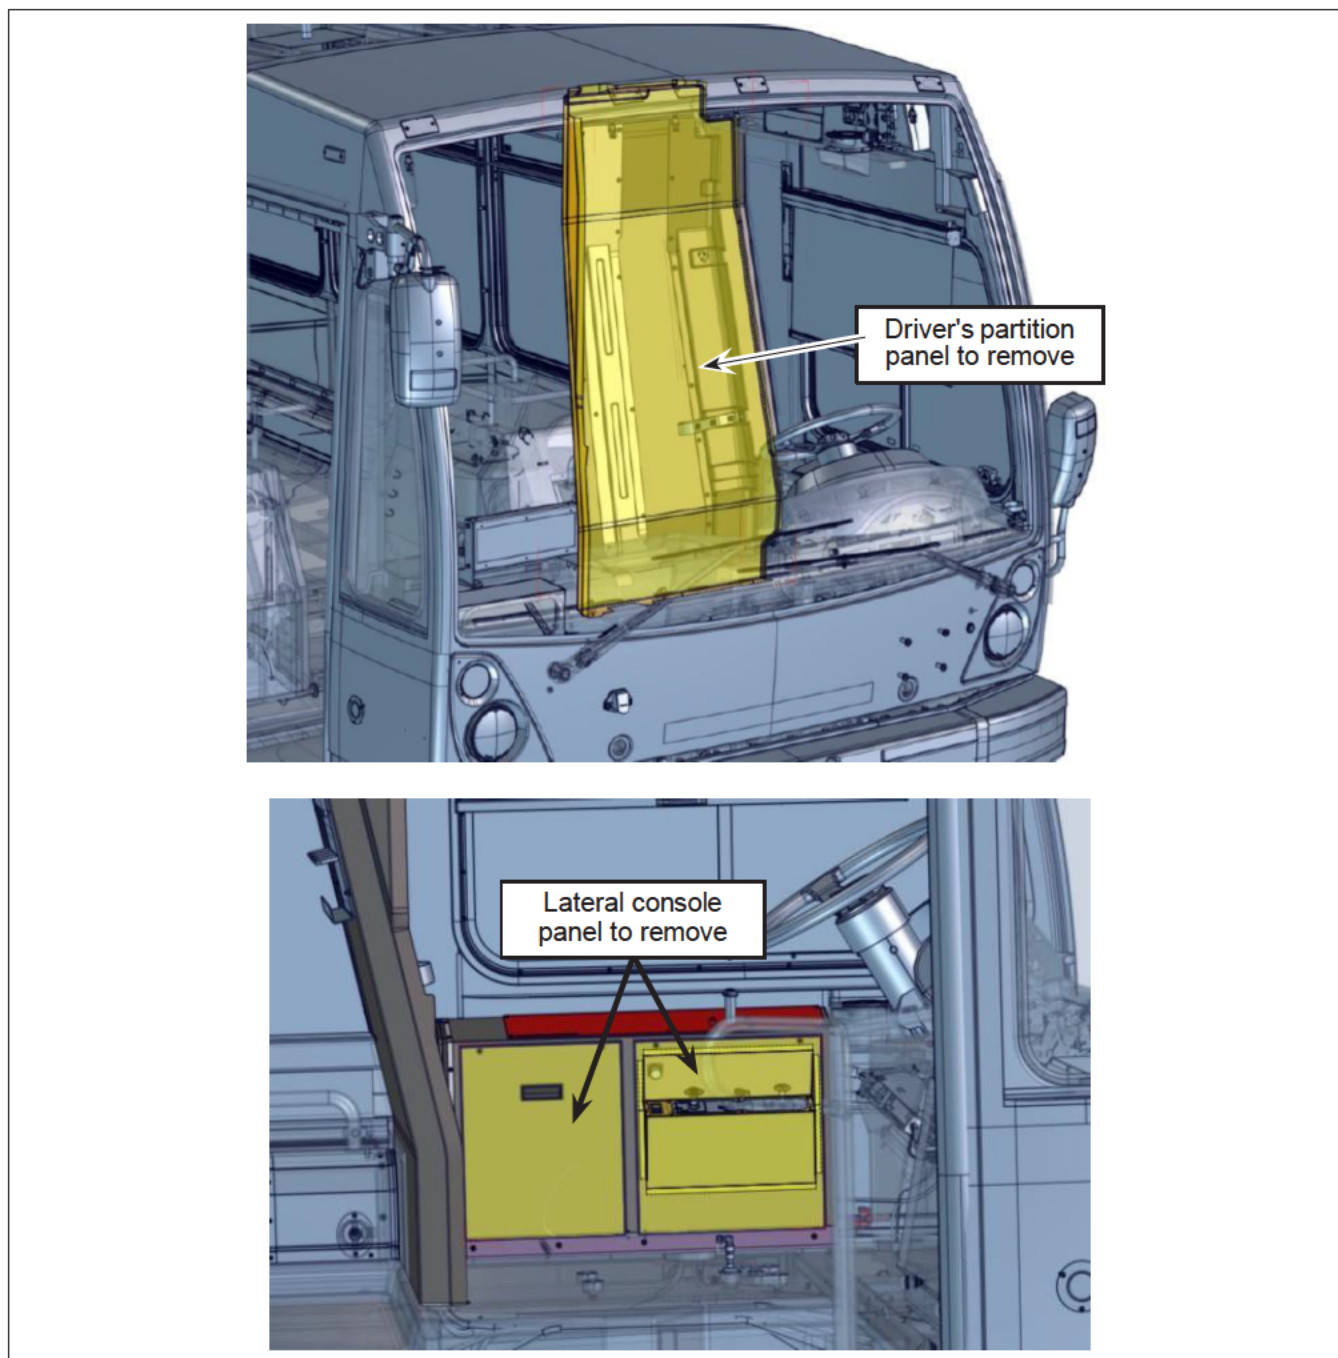

Figure 13 - Driver's Partition and Lateral Console Panel to Remove
- 1.33. Remove the driver's partition panel. Retain the panel and hardware. See Figure 13.
- 1.34. Remove the lateral console panels. Retain the panel and hardware. See Figure 13.
- 1.39. Install the removed driver's partition panel with the retained hardware. See Figure 13.
- 1.40. Install the removed lateral console panels with the retained hardware. See Figure 13.